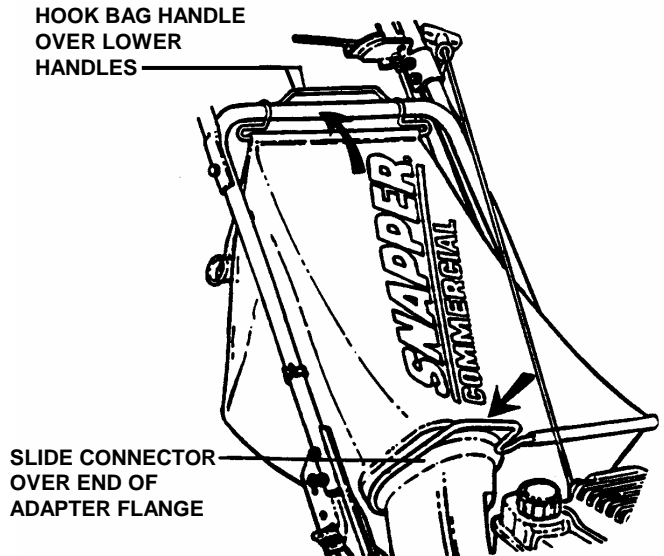

FIGURE 2.16
1. Grasp bag connector and bag handle as shown. See Figure 2.16.